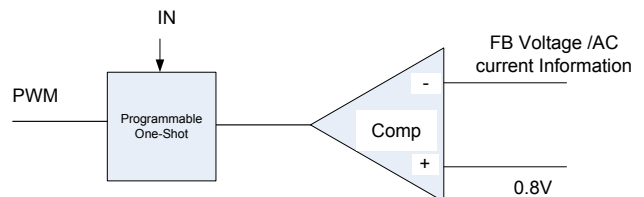

Figure 2. Simplified Control Schematic of AOZ2263AQI-15
The simplified control schematic is shown in Figure. 2. The high-side switch on-time is determined solely by a one-shot whose pulse width can be programmed by one external resistor and is inversely proportional to input voltage (IN). The one-shot is triggered when the internal 0.8V is higher than the combined information of FB voltage and the AC current information of inductor, which is processed and obtained through the sensed lower-side MOSFET current once it turns-on. The added AC current information can help the stability of constant-on time control even with pure ceramic output capacitors, which have very low ESR. The AC current information has no DC offset, which does not cause offset with output load change, which is fundamentally different from other V^2 constant-on time control schemes.